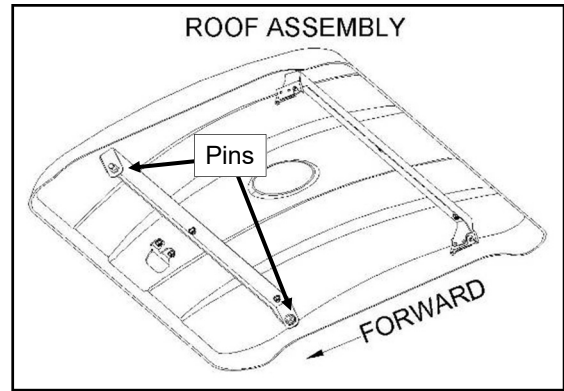

Fig. 4.1 (contents of roof kit)
4.1 Fig. 4.1 shows the only item included in the roof kit. Note: underside view of roof assembly shown.